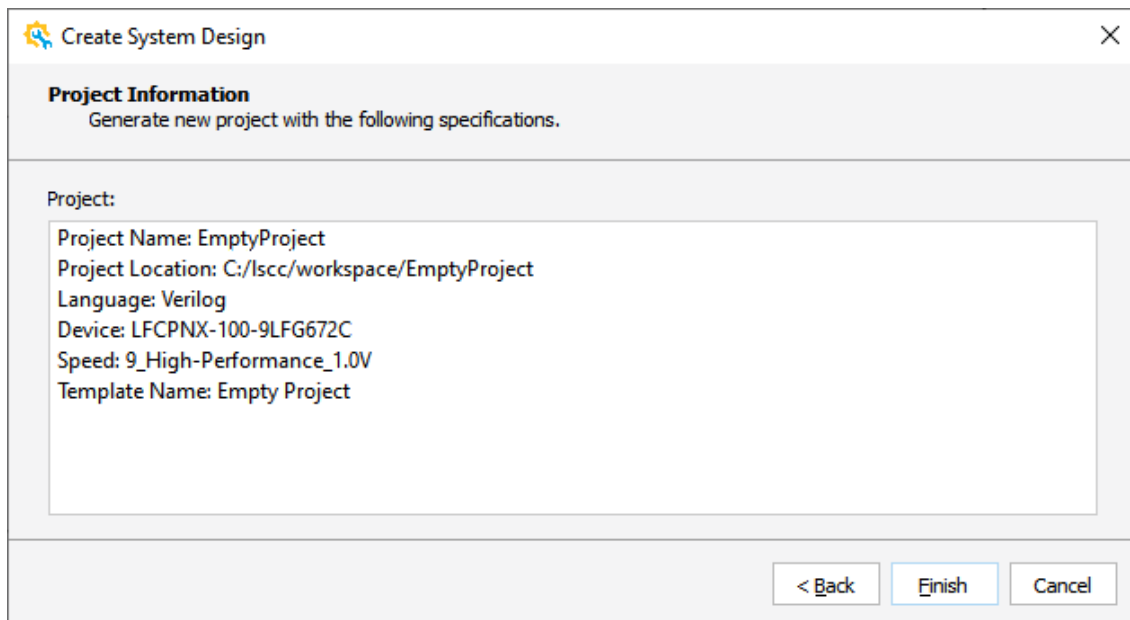

Figure 2.7. Create System Design – Project Information Wizard
- The Configure Propel Project wizard is shown (Figure 2.7). From the **Board Select** area, select the desired board, such as CertusPro-NX Evaluation.
8. Click **Next**. The Project Information wizard opens (Figure 2.7).